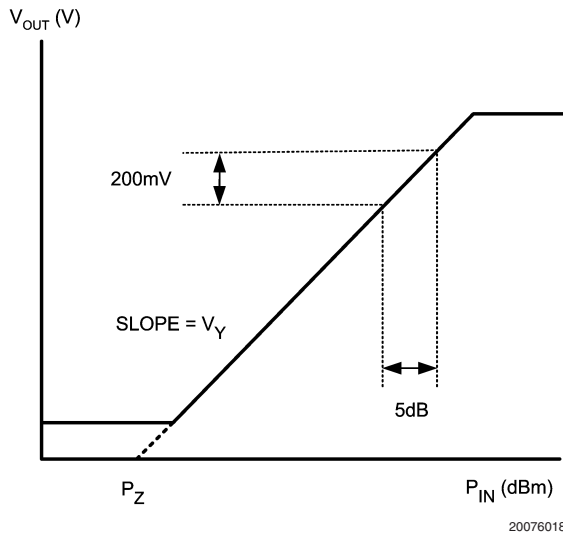

FIGURE 5. V_{OUT} vs. RF Input Power P_{IN}
where V_Y is the slope of the detection curve (Figure 5) and μ is the modulation index. Equation (5) can be reduced to:
A further understanding of the equation above can be achieved via the knowledge that the output voltage V_{OUT} of the LMV225/LMV228 is linear in dB, or proportional to the input power P_{IN} in dBm. As discussed earlier, CDMA has a modulation in the order of 5 to 6 dB. Since the transfer is linear in dB, the output voltage V_{OUT} will vary linearly over about 5 to 6 dB in the curve (Figure 5).